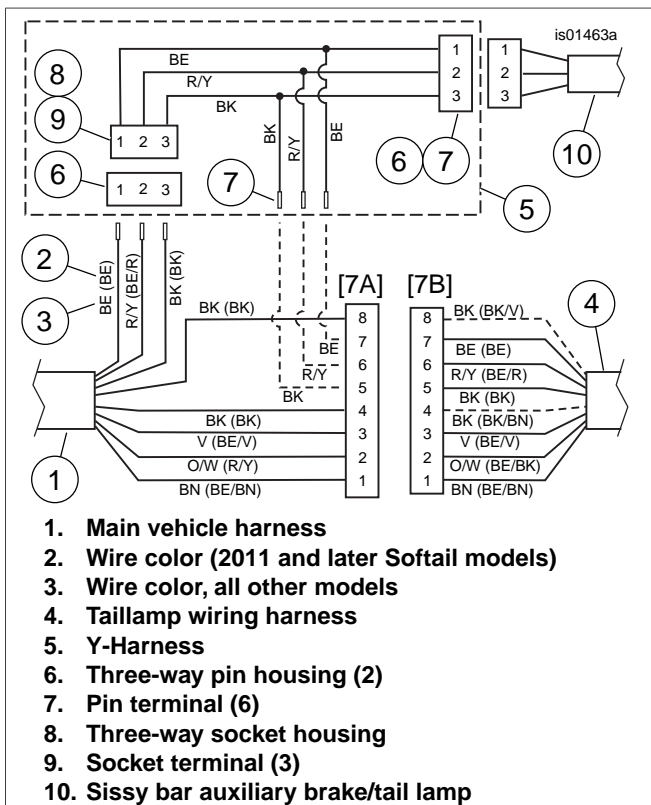

Figure 7. Y-Harness Wiring Diagram (2013-Earlier)
1. See Figure 7. Locate and separate the tail lamp wiring harness (4) connector [7B] from the main vehicle harness (1) tail lamp connector [7A].